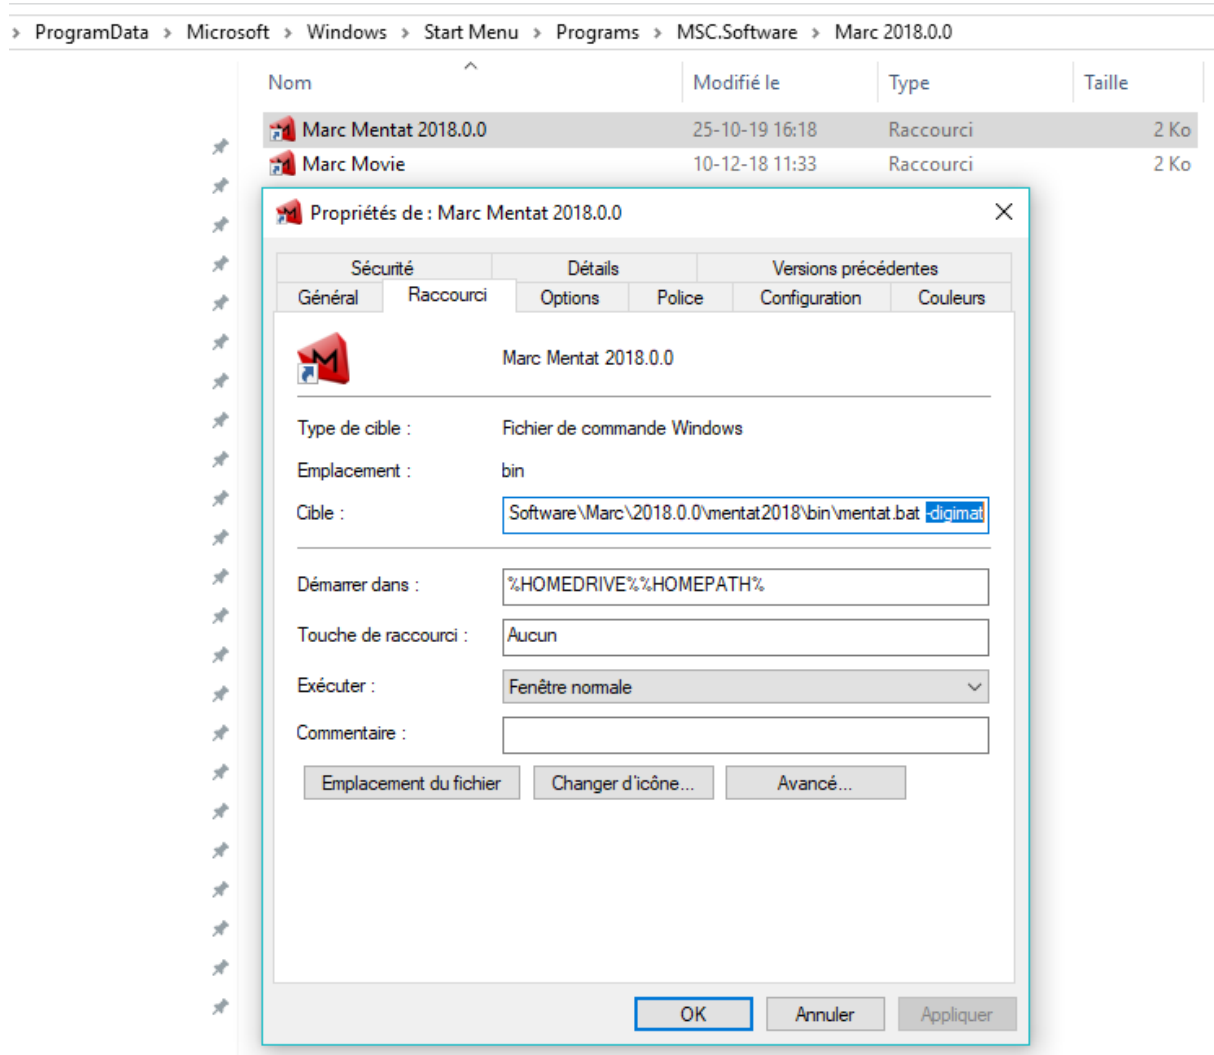

Figure I.5.8: Add -digimat extra argument in Marc Mentat shortcut.
- **Digimat 2020 FP1 uses dedicated Marc card to define Digimat material. To be able to use this dedicated material card, it is needed to start Marc Mentat with -digimat extra argument. This argument can be added in Marc Mentat Start Menu Shortcuts like illustrated in Figure I.5.8.**